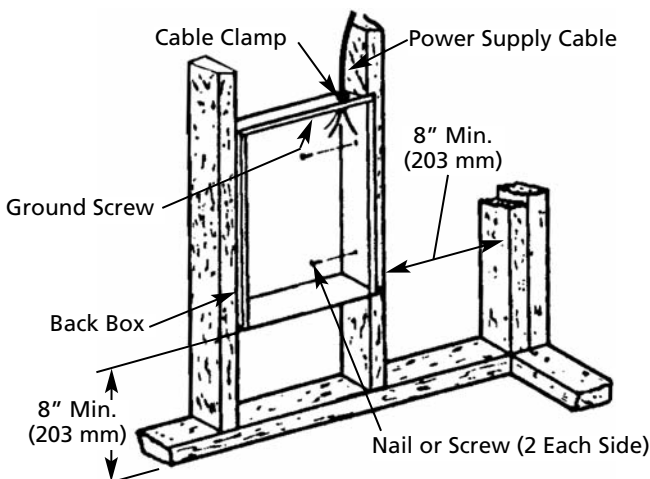

Figure 2 – Locating Recessed Back Box in New Construction
1. Mounting Back Box (See Figure 2).
- c. Secure the back box in position with wood screws or nails as shown in Figure 2.
2. Power Supply Wiring (See Figure 2).
2. Power Supply Wiring (See Figure 2)
- Secure the back box in place with wood screws or nails. (Figure 2)